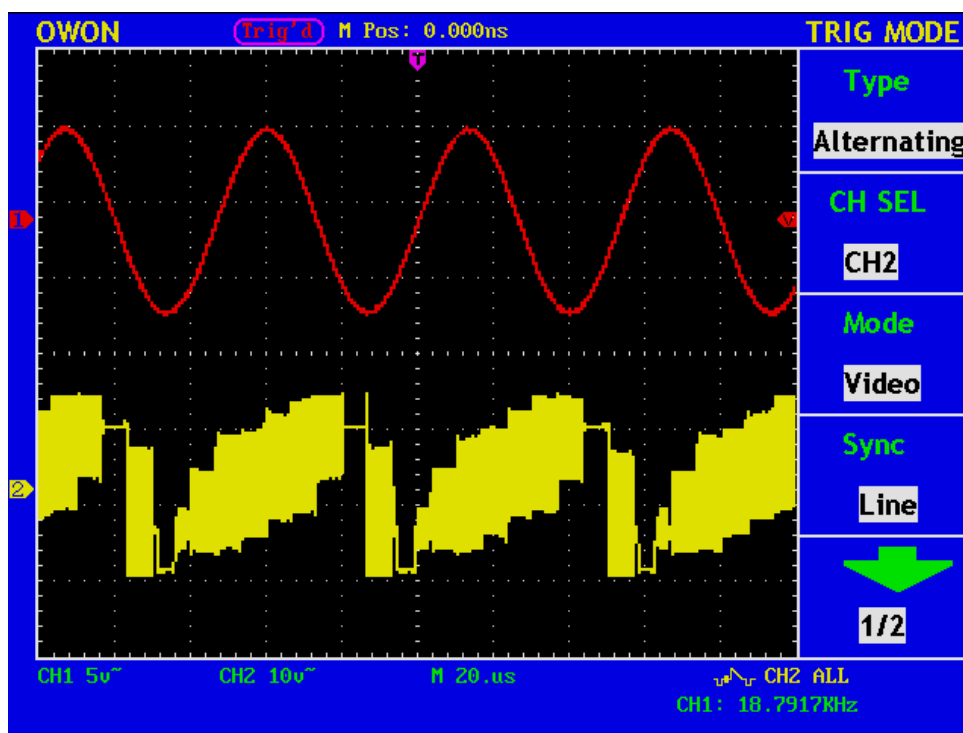

Fig. 40 Alternate trigger Oscillogram
- Acquired waveform refer to Fig.40